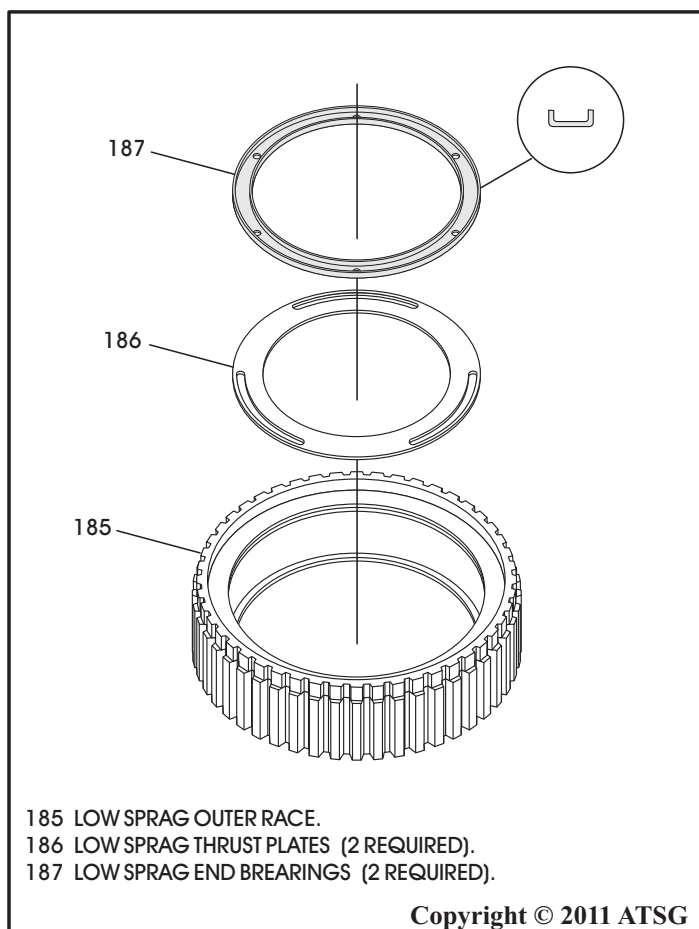

Figure 67
5. Place the low sprag outer race on a flat work surface in the position shown in Figure 67.
6. Install one of the low sprag thrust plates on the inside of outer race, as shown in Figure 67.
7. Install one low sprag end bearing with the lips facing up, as shown in Figure 67.